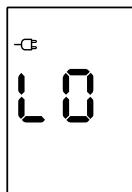

Fig. 4
- with the appliance in on mode after pressing for 5 seconds the ECO button the display will show (see fig. 4):